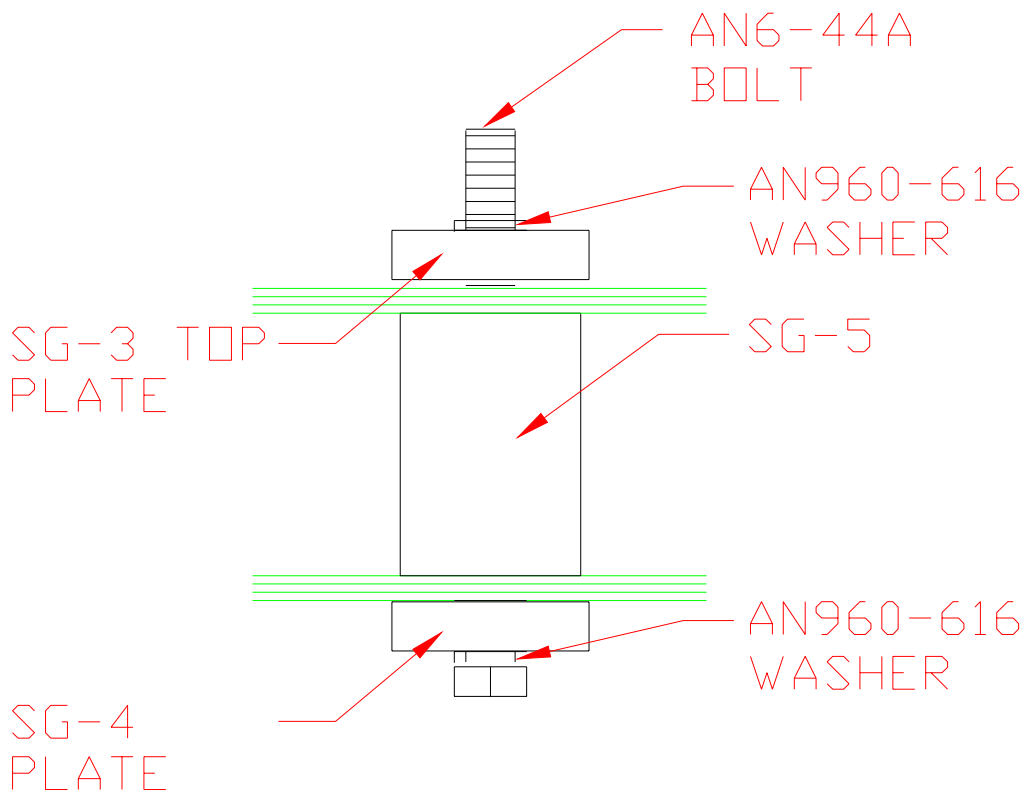

Figure 14.3.3
14) See Figure 14.3.3 for assembly.